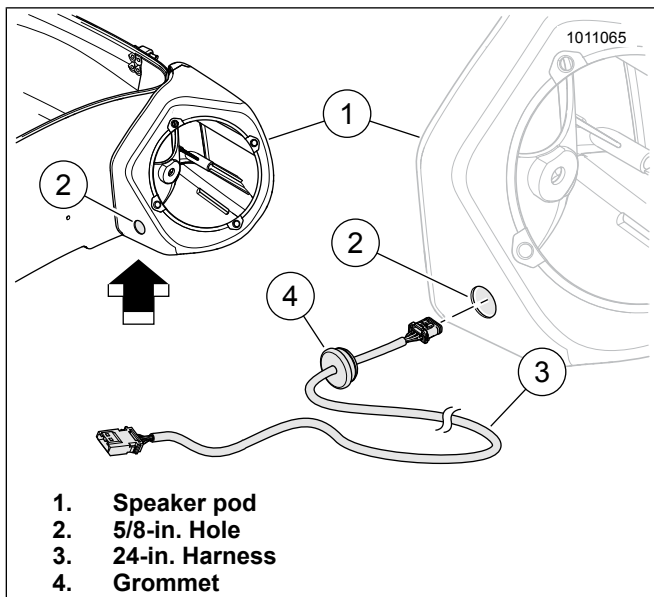

Figure 22. Left Speaker Pod
12. See Figure 22. Remove existing grommet from speaker pod (1) and insert new harness (3) into existing grommet (4) with harness.
13. Insert the male end of the harness (3) with grommet. Press the grommet (4) into the hole by first starting one tapered edge of the grommet into the hole. Correctly installed the outside of the grommet should seat against the outside of the speaker pod. Press around the perimeter of the grommet to seat it in place.